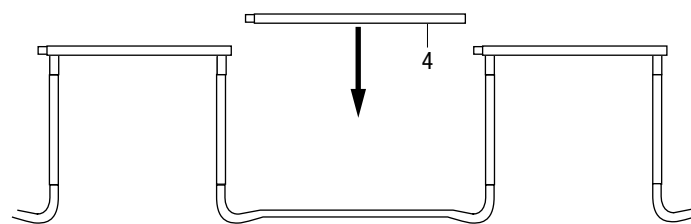

Fig. 3.2
- Add the extra metal frame pieces (4) in the space between the leg supports (6) by connecting the pipes. (Fig. 3.2)